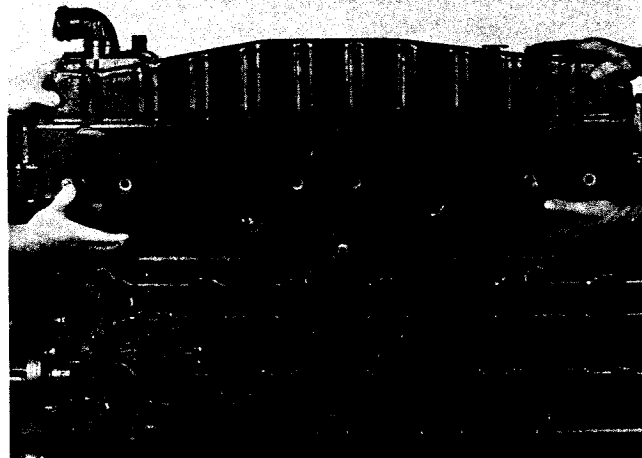

Fig. 0-20, (N100145). Removing aftercooler
3. Remove capscrews, lockwashers and flatwashers at each intake port; lift off intake manifold and discard gaskets. Fig. 0-20.